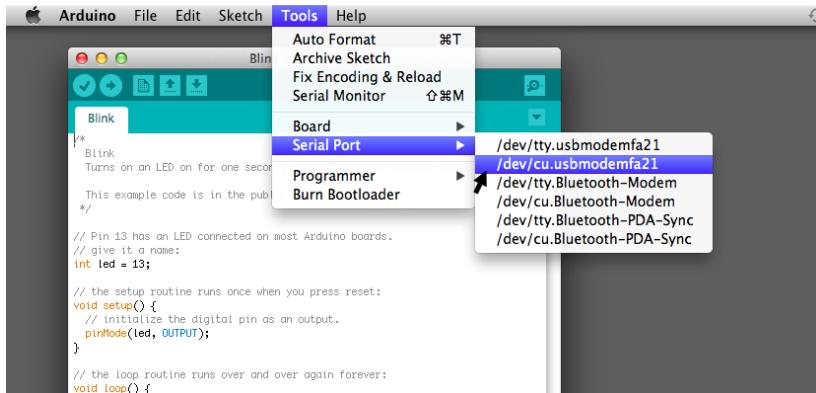

Figure G-2. Choose the serial port that begins with “/dev/cu.usbmodem”
7. Within the IDE, click Tools→Serial Port and select the serial port that starts with `/dev/cu.usbmodem` (see Figure G-2) The last few digits will likely be something else. Do not select the one beginning with `/dev/tty`.